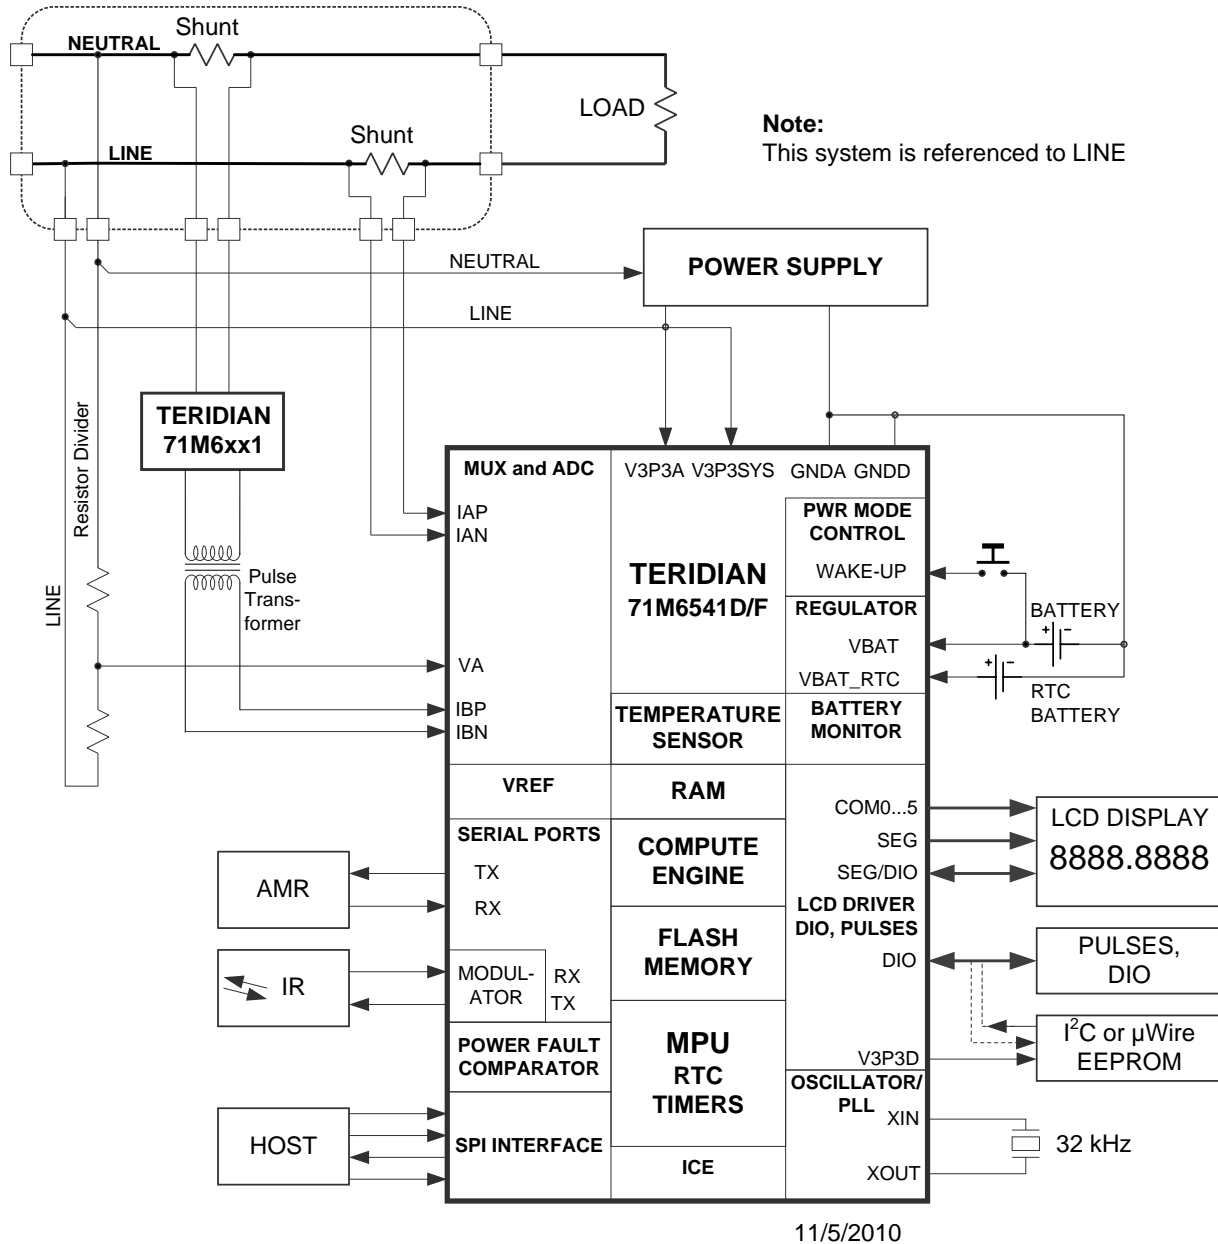
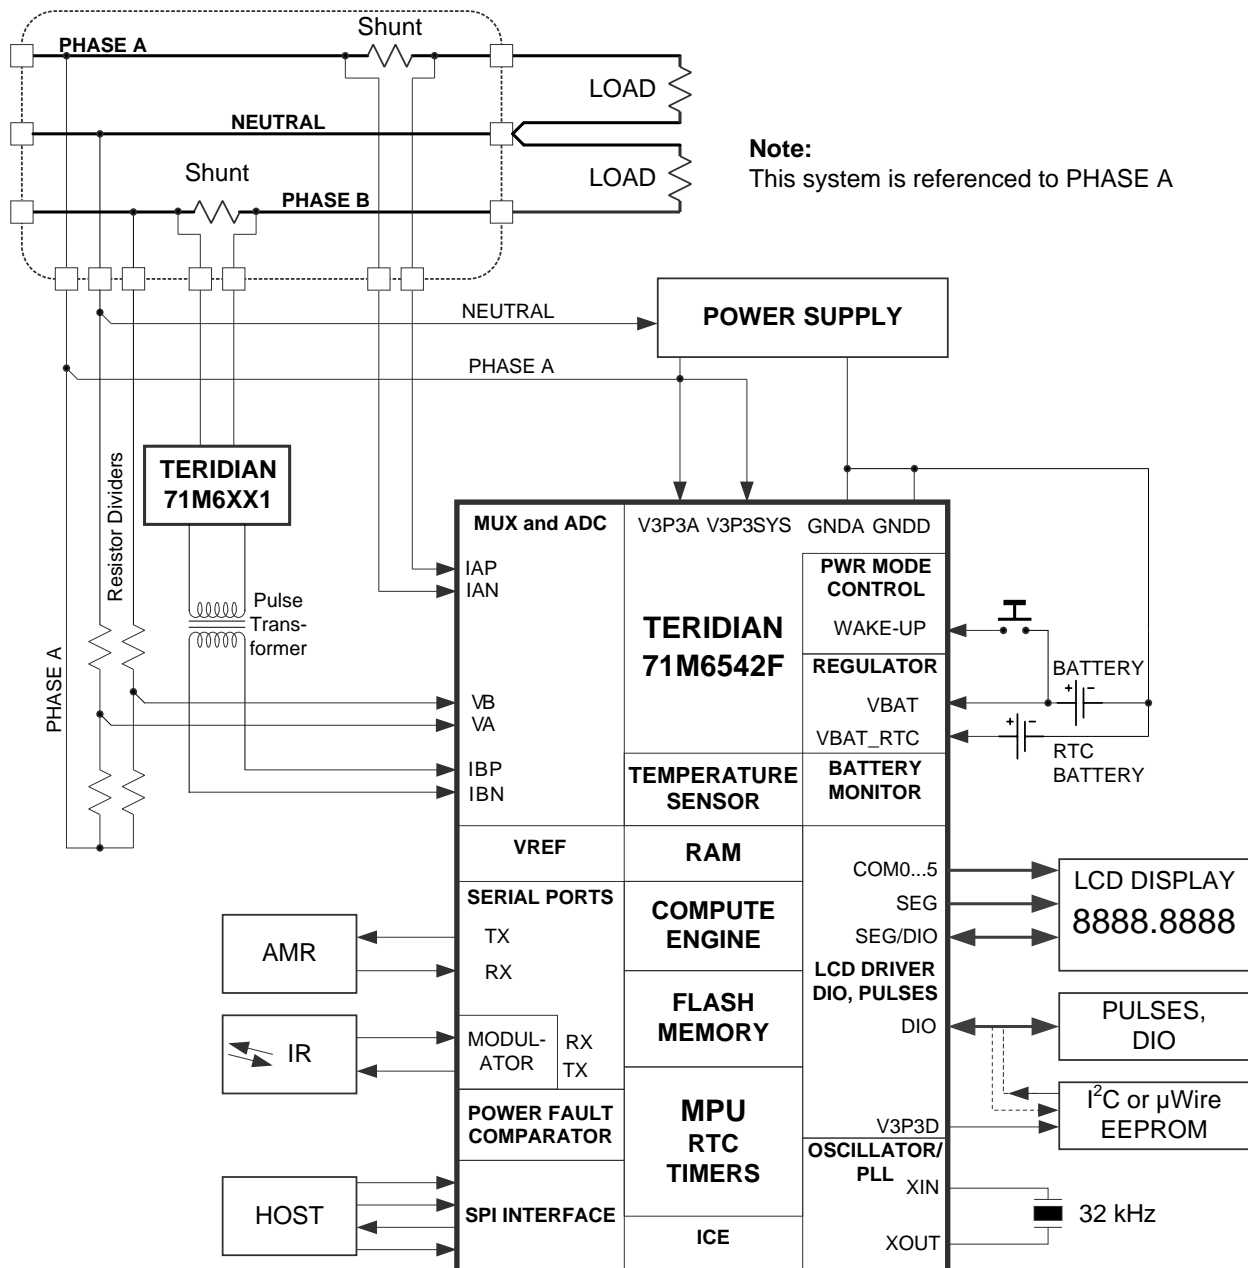

Figure 36: 71M6541D/F with 71M6x01 isolated Sensor
Figure 38: 71M6542F with 71M6x01 Isolated Sensor
Figure 36 shows a typical connection for one isolated and one non-isolated shunt sensor, using the 71M6x01 Isolated Sensor Interface. This configuration implements a single-phase measurement with tamper-detection using the second current sensor. This configuration can also be used to create a split phase meter (e.g., ANSI Form 2S). For best performance, the IAP-IAN current sensor input is configured for differential mode (i.e.,  $DIFFA\_E = 1$ , I/O RAM 0x210C[4]). The outputs of the 71M6x01 Isolated Sensor Interface are routed through a pulse transformer, which is connected to the pins IBP-IBN. The IBP-IBN pins must be configured for remote sensor communication (i.e.,  $RMT\_E = 1$ , I/O RAM 0x2709[3]). See Figure 3 for the AFE configuration corresponding to Figure 36.
Figure 38 shows a 71M6542F configuration using locally connected current sensors. The IAP-IAN current channel may be directly connected to either a shunt resistor or a CT, while the IBP-IBN channel is connected to a CT and is therefore isolated. This configuration implements a dual-phase measurement utilizing Equation 2. For best performance, both the IAP-IAN and IBP-IBN current sensor inputs are configured for differential mode (i.e.,  $DIFFA\_E = 1$  and  $DIFFB\_E = 1$ , I/O RAM 0x210C[4] and 0x210C[5]). The IBP-IBN input must be configured as an analog differential input disabling the remote sensor interface (i.e.,  $RMT\_E = 0$ , I/O RAM 0x2709[3]). See Figure 4 for the AFE configuration corresponding to Figure 38.
Figure 38 shows a typical two-phase connection for the 71M6542F using one isolated and one non-isolated sensor. For best performance, the IAP-IAN current sensor input is configured for differential mode (i.e.,  $DIFFA\_E = 1$ ,  $I/O\ RAM\ 0x210C[4]$ ). The 71M6x01 Isolated Sensor Interface is used to isolate phase B. The outputs of the 71M6x01 Isolated Sensor Interface are routed through a pulse transformer, which is connected to the pins IBP-IBN. The IBP-IBN pins must be configured for remote sensor communication (i.e.,  $RMT\_E = 1$ ,  $I/O\ RAM\ 0x2709[3]$ ). See Figure 5 for the AFE configuration corresponding to Figure 38.
This section discusses metrology temperature compensation for the meter designs where current shunt sensors are used in conjunction with Teridian's 71M6x01 isolated sensors, as shown in Figure 36 and Figure 38.
Referring to Figure 36 and Figure 38, the VA voltage sensor is available in both the 71M6541D/F and 71M6542F and is directly connected to the 71M654x. The VB voltage sensor is available only in the 71M6542F and is also directly connected to it. Thus, the precision of these directly connected voltage sensors is affected by VREF in the 71M654x. The 71M654x also has one shunt current sensor (IA) which is connected directly to it, and therefore is also affected by the VREF in the 71M654x. The external current sensor and its corresponding signal conditioning circuit also has a temperature dependency, which also may require compensation, depending on the required accuracy class. Finally, the second current sensor (IB) is isolated by the 71M6x01 and depends on the VREF of the 71M6x01, plus the variation of the corresponding shunt resistance with temperature.